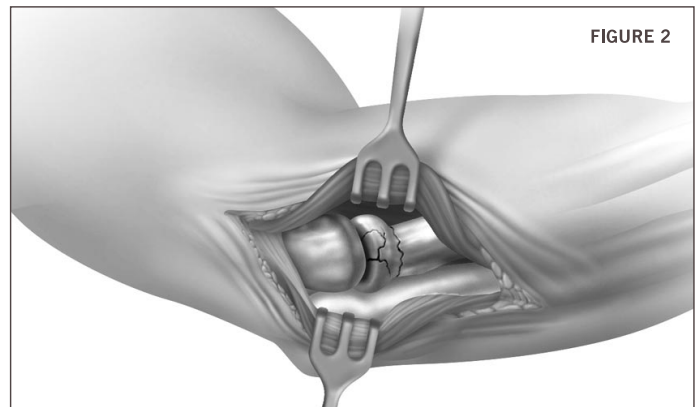

FIGURE 2
Pronate the forearm during exposure to protect the motor branch of the radial nerve that passes around the radial neck. If needed, release the origin of the anconeus subperiostally and retract it posteriorly to permit adequate exposure of the capsule. Continue the dissection to the joint capsule. Divide the annular ligament (AL) and radial collateral ligaments (RCL) longitudinally along the centerline of the head. Reflect the lateral capsule anteriorly and posteriorly to expose the radial head **Figure 2**.